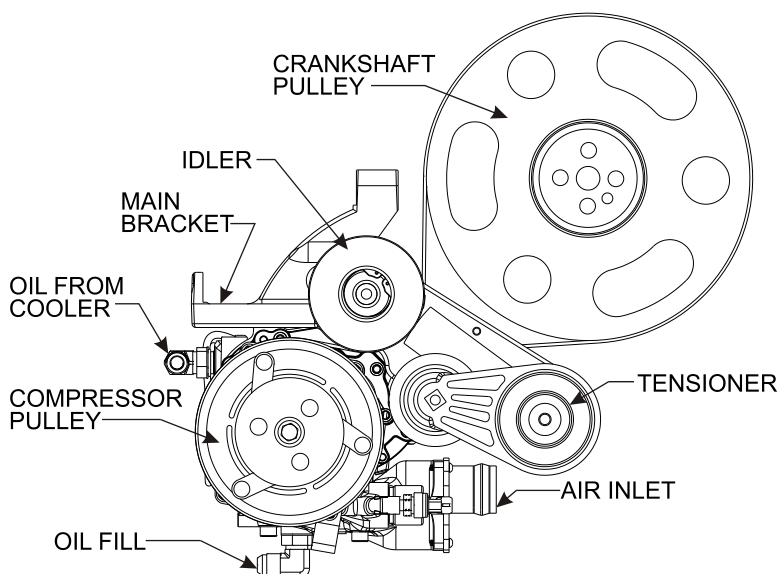

Figure 3.8
- ☐ Install the VR compressor belt (Figure 3.8) and remove the M10 tensioner lock bolt from the bracket.